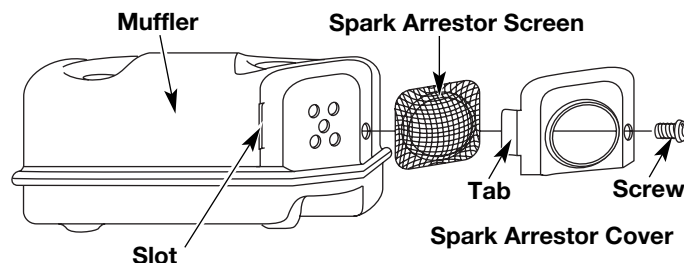

Figure 43
2. With a flat blade screwdriver or Torx T-20 bit, remove the screw attaching the spark arrestor cover to the muffler. See Figure 43.